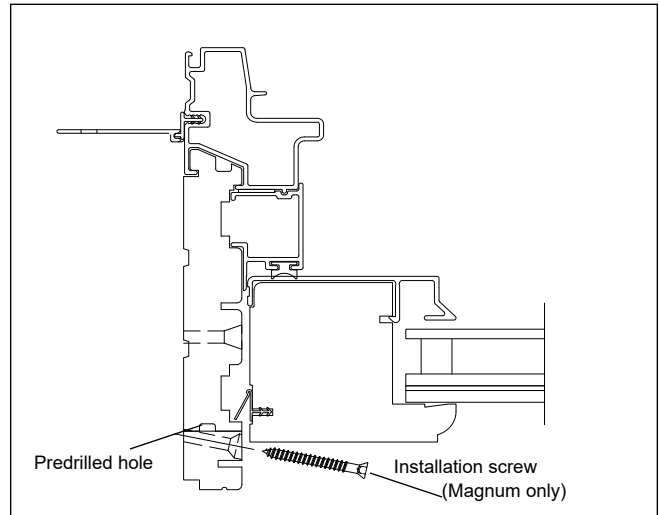

Figure 2
2. For unit with sash installed, install the units per the supplied installation instructions. If supplied, use jamb installation screws and pre-drilled holes in jamb. See figure 2. Proceed to step 6.